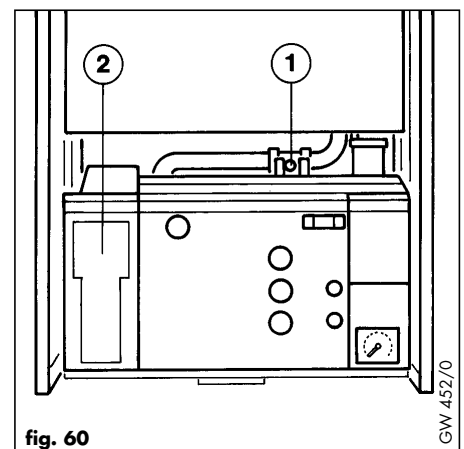

fig. 60
7.1.6 Lower front control panel (fig. 60)
- Undo screw (1) and lower control box forward from top.